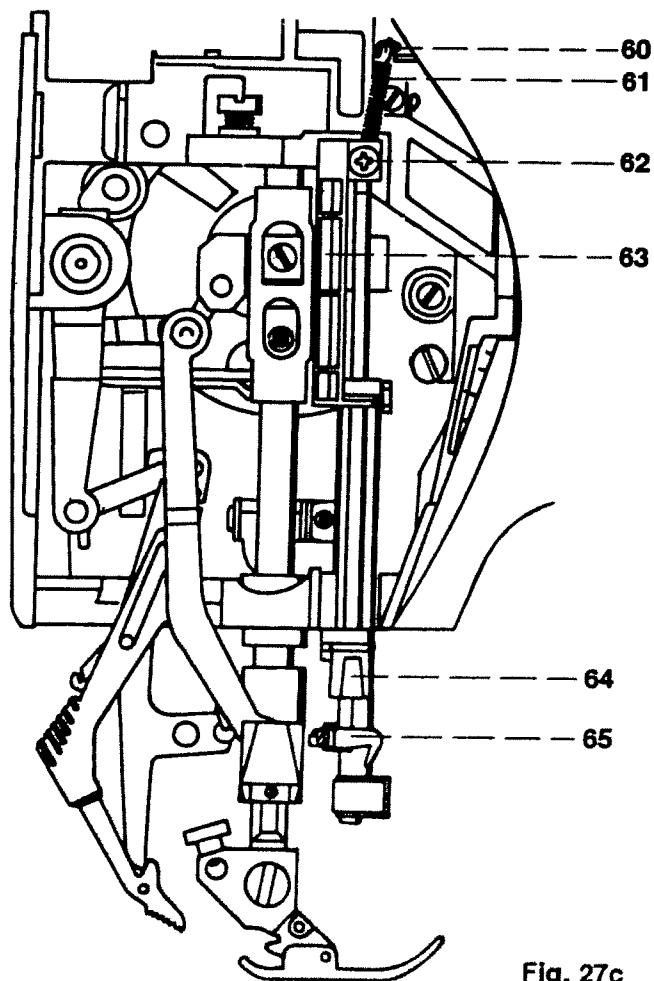

Fig. 27c
- Disconnect pull-spring 61 at the top (fig. 27c).
- Turn pull-spring 61 by two full turns counter-clockwise and engage it in hook 60 so that the spring is positioned towards the left. (fig 27c).